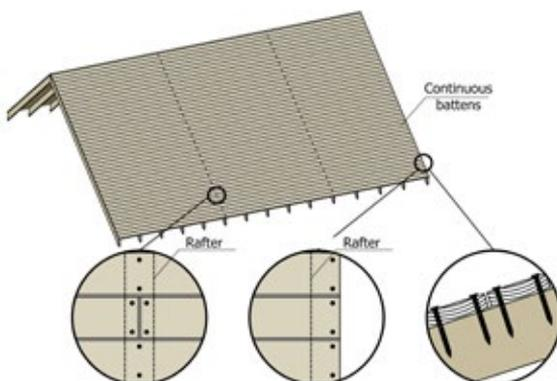

Fig. 6. Laying a solid decking of grooved or edged boards.
3.2.2 Attention! Fragments of annual rings should be placed with bulges downward (Fig. 6).
3.2.5 Fastening for boards - type 2 (Table 1). The board should be fixed to each rafter in 2 fixation points (Fig. 6).
3.2.6 The vertical joint of the boards must be on the rafter in all cases and must be staggered in every row (Fig. 6).